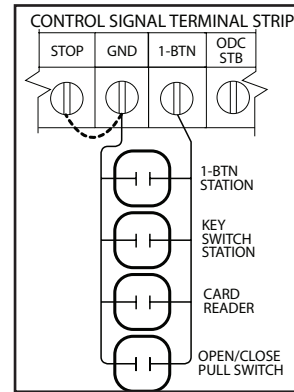

Figure 4
- 2) For single button accessory controls, make connections as shown in **Fig. 4**.